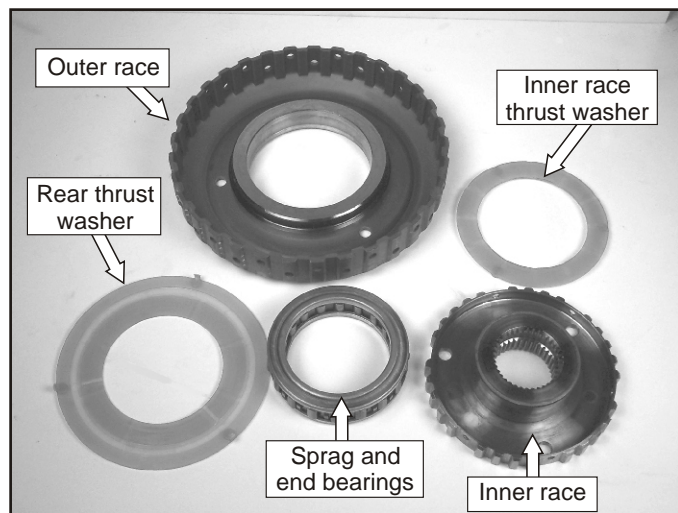

Figure 132
79. Refer to Figure 132 for a view of the complete assembly disassembled.